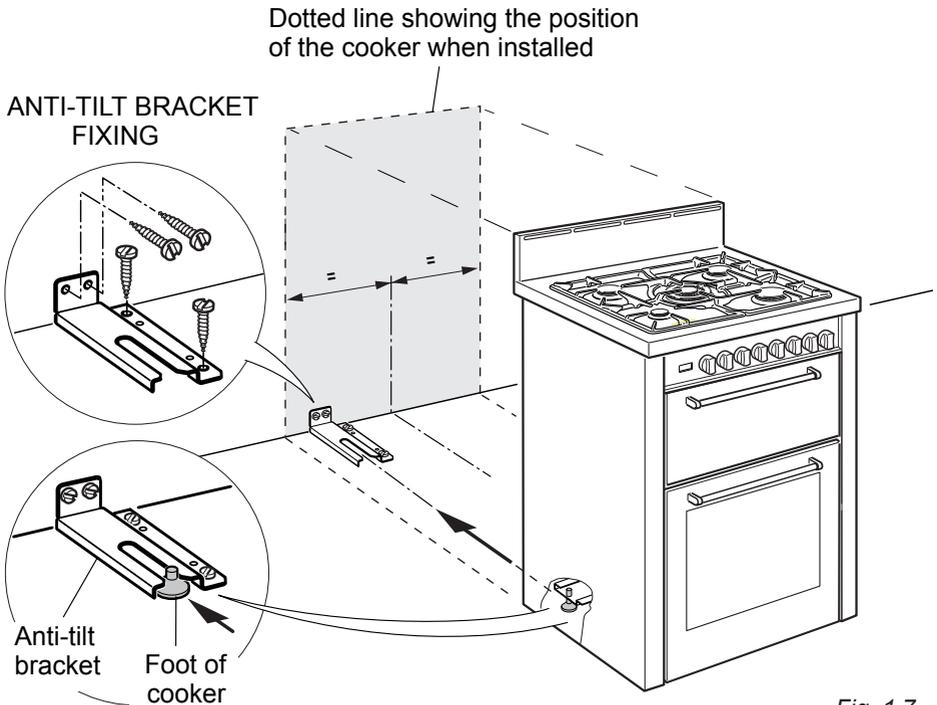

Fig. 1.7
1. After you have located where the cooker is to be positioned, mark on the wall and on the floor the place where the four screws of the anti-tilt bracket have to be fitted. Please follow the indications given in fig. 1.7.
2. Drill four 8mm diameter holes for the fixing screws (two in the wall and two in the floor—see fig. 1.7) and insert the plastic plugs supplied.
3. Attach the anti-tilt bracket to the floor and rear wall using the four screws supplied, as shown in fig. 1.7.
4. After attaching the anti-tilt bracket securely, slide the cooker into place. Ensure that the rear left foot slides under the bracket, as shown in fig. 1.7.